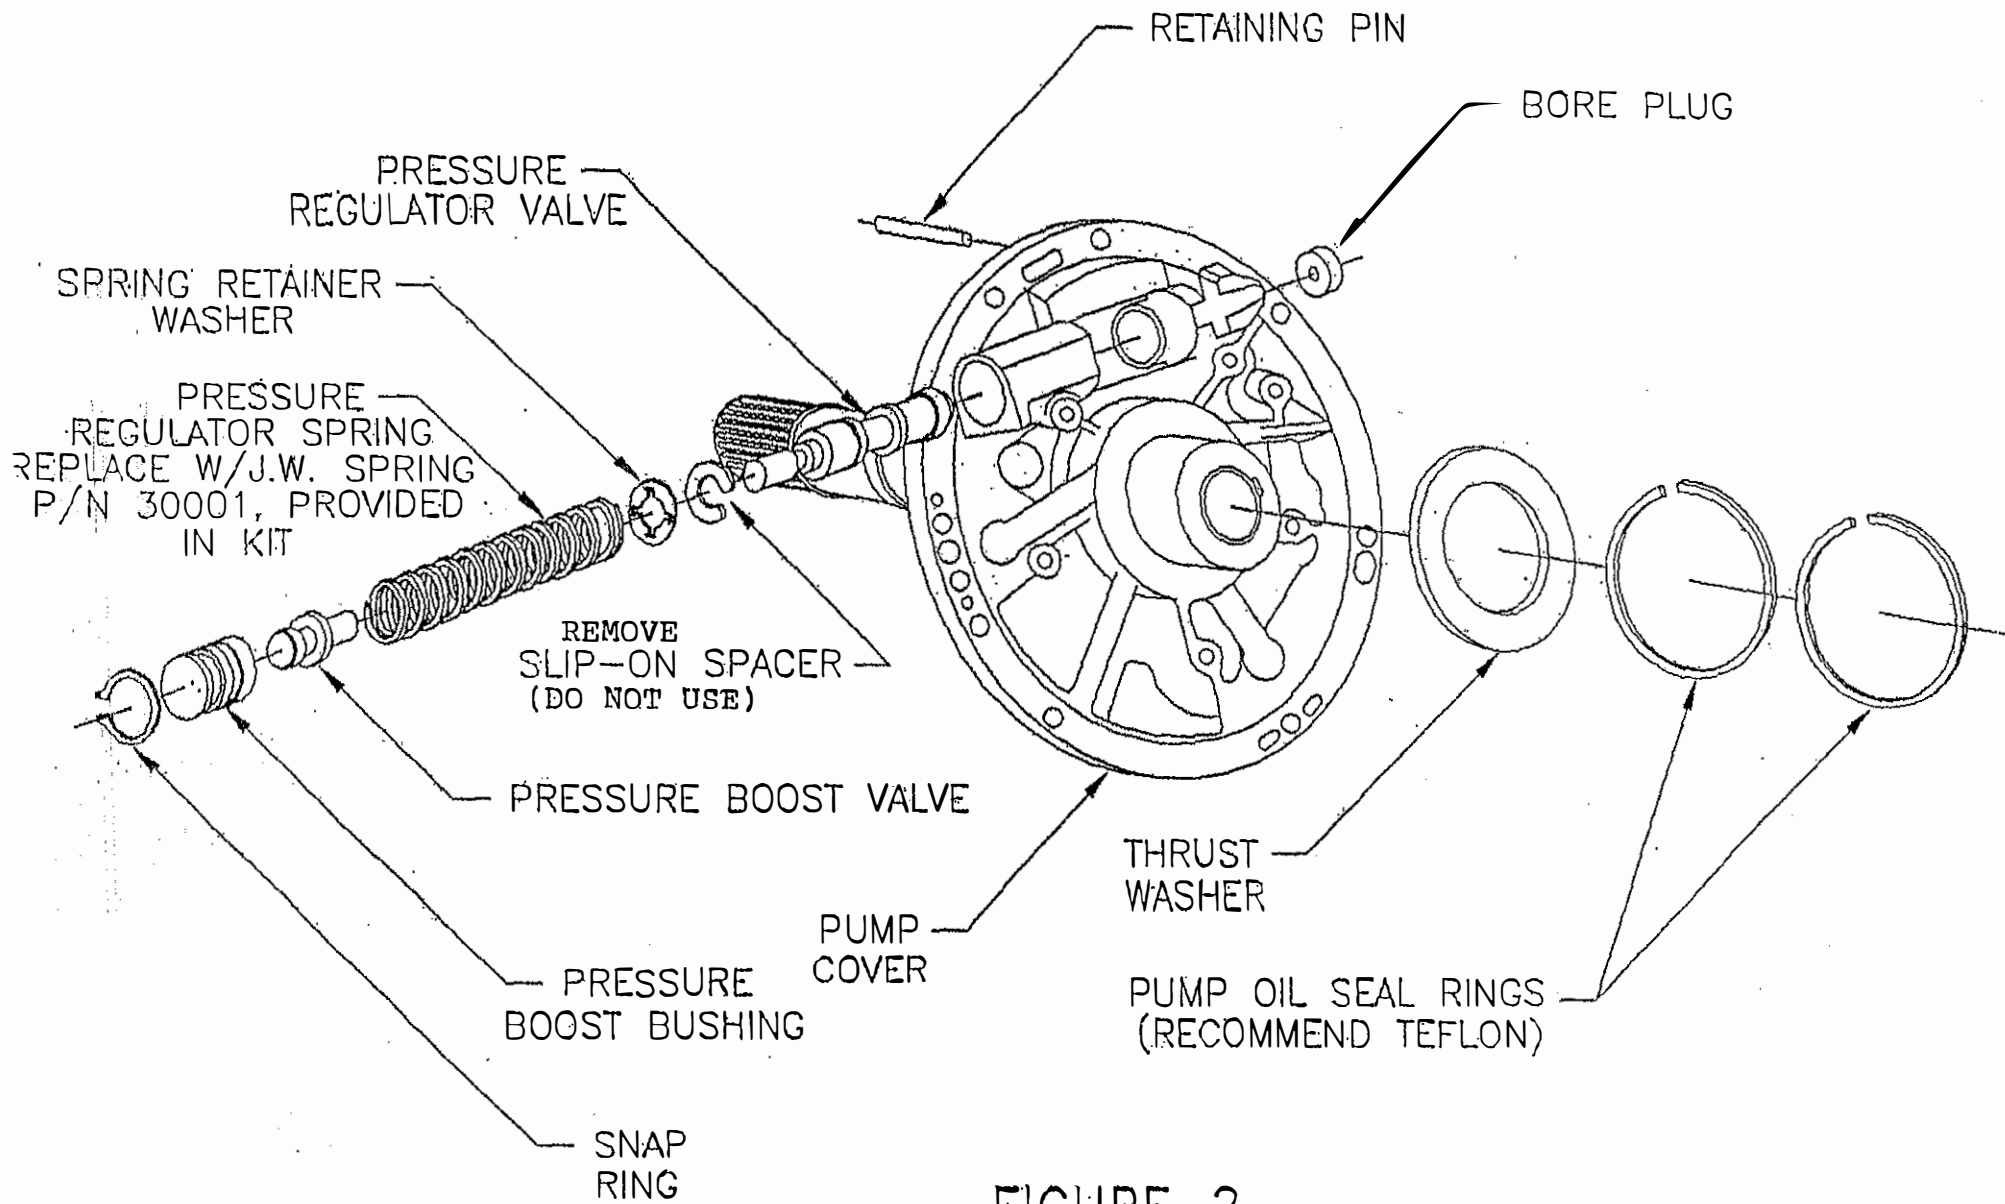

FIGURE 2
STEP 2: Refer to Fig. 2, Pg. 3. Disassemble the pressure regulator valve. Use care when removing the snap ring as it is under spring pressure. Discard the original pressure regulator spring and replace it with the spring provided in this kit (optional). Reassemble and be sure to install only the pressure regulator and the spring retainer washer (do not use the slip-on spacer). Reinstall the front pump.